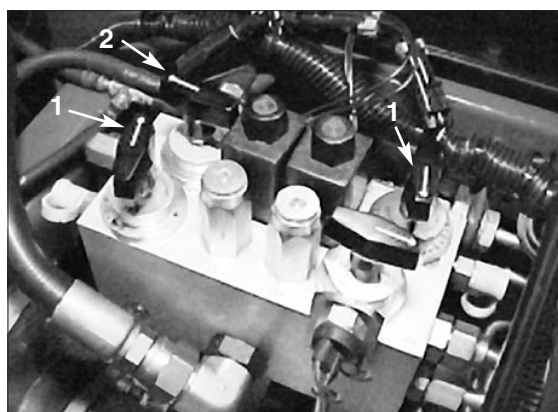

Figure 56
3. Locate the reel speed selector knobs and backlap knobs (Fig. 56). Rotate the desired backlap knob(s) to the backlap position and the desired reel speed selector knob(s) to position "1."